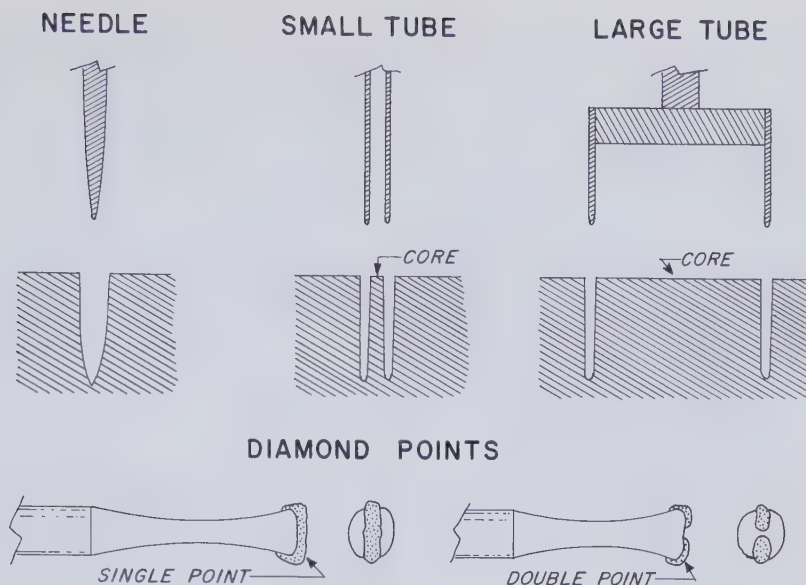

Fig. 69 Various types of gemstone drill bits.
**D**RILLING is used for many purposes in lapidary work, as in piercing beads for stringing, boring attachment holes, and hollowing out cavities in large blocks of material. String holes and attachment holes are usually very small in diameter but holes drilled for hollowing out cavities may be several inches or more in diameter. Various types of gemstone drill bits are shown in Figure 69.
An easier and more certain method of boring holes is to use a length of rotating tubing whose point is supplied with abrasive grit or coated with sintered metal containing diamond. It is impossible to drill as fine a hole with tubing as is possible with a needle, but for most purposes the holes are small enough. The principle of the tube drill is illustrated in Figure 69 where a small tube and a large tube are shown with corresponding holes in pieces of rough gem material. The tube cuts a circular channel as it spins and
therefore leaves behind a slender or stout core, depending on the tube diameter. When the drill is large and purposely used to obtain a cylindrical section of stone, as shown to the right of Figure 69, it is known as a core drill. Small-diameter bits are used with loose abrasive but large-diameter bits may be coated with sintered metal containing diamond.
Tubes used for boring very small holes are made from bronze, brass, stainless steel, or ordinary steel. The material is not too important providing it is not too soft. The effective limit to size is about  $\frac{1}{16}$  inch—anything smaller is apt to jam. Small-diameter bits require accurate drills to run them, since the slightest wobbling soon causes wear on the sides and gradual closing of the tube opening. The slender core, shown in the center illustration of Figure 69, tends to break into small sections which work their way up into the tube. If these should jam, the face of the tube becomes plugged with stone and drilling stops. One drill takes care of this by providing a needle which automatically dips through the tube and pushes out the small bits of stone as fast as they enter. In large tubes, this is not a problem.
Very efficient drills are made by imbedding small bits of diamond in slots cut in the end of thin drill rod, as shown in Figure 69. The single point bit is not as efficient as the double point bit, but is easier to make and less likely to be damaged in use. To make one, obtain some lengths of thin drill rod in various diameters to about  $\frac{1}{8}$  inch and an assortment of diamond chips or small single stones of the kind known as bort. Diamond chips are less desirable because they split during use but are easier to get than properly shaped bort crystals. The end of the drill rod is annealed by heating to cherry red and allowing to cool. The end is then squared and slotted with a jeweler's saw; the slot can be enlarged slightly by using a thin ruffling file. Select a piece of diamond of rectangular shape and somewhat wider than the diameter of the drill rod; insert into the slot and gently pinch the ends over with a pair of pliers. Use as little force as possible, to prevent splitting the diamond. Examine with a magnifying glass to see that the steel is pinched over properly. Dip the end in silver solder flux and heat. Now heat once more and apply silver solder. Properly done, the chip will be completely enclosed in steel with spaces filled with solder. The bit is now taken to a grinding wheel and the excess metal cautiously cut away until the diamond chip appears on front and sides. The neck is made slender as shown in Figure 69 by placing the bit in the drill chuck and filing while it spins. Double point bits are more difficult to make, especially in small sizes. Professional bits are made with two matched bort crystals of minute size and with great care to insure proper anchoring.